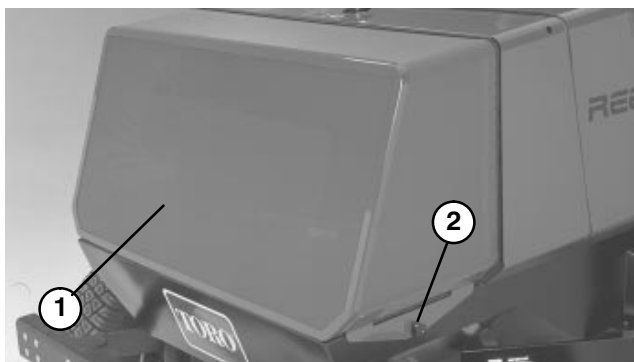

Figure 32
- B. Remove knobs securing rear screen to frame and remove screen (Fig. 32).